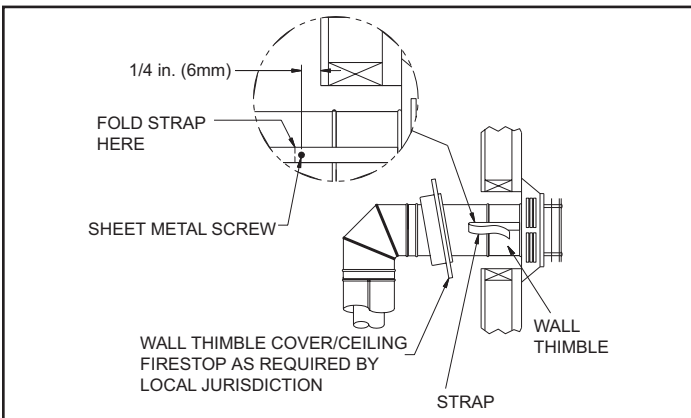

Figure 5.9
Step 5 - Place the wall thimble cover over the pipe assembly and slide the appliance and vent assembly towards the wall, carefully inserting the vent pipe into the vent termination cap assembly. It is important that the vent pipe extend into the vent termination cap a sufficient distance so as to result in a minimum pipe overlap of 1-1/4 in. (32mm). Secure the connection between the vent pipe and the vent termination cap by attaching the two sheet metal strips extending from the vent termination cap assembly into the outer wall of the vent pipe. Use the two sheet metal screws provided to connect the strips to the pipe section (Figure 5.9).